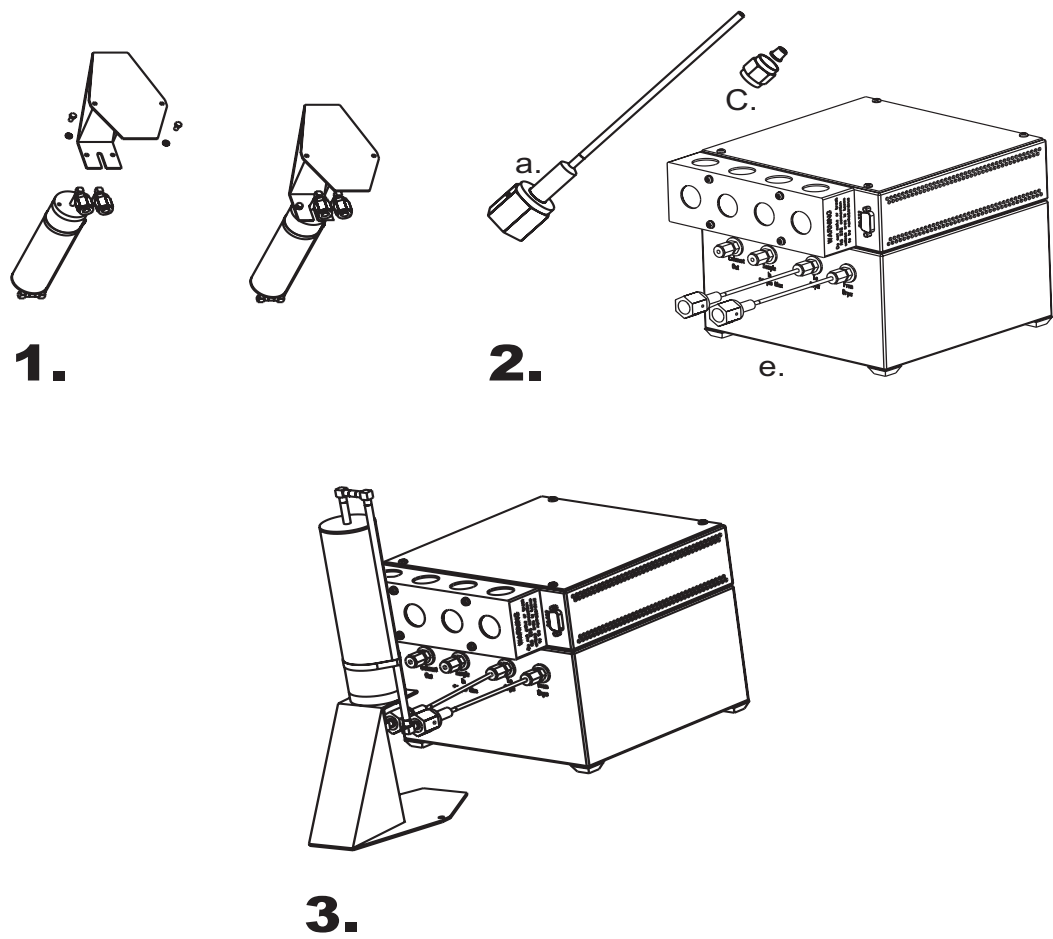

Figure 2-4.
2. Connect the Dryer input to the "To Dryer" 1/8-inch compression fitting on the analyzer. Connect the Dryer output to the "From Dryer" 1/8-inch compression fitting. Refer to "Dryer Installation Instructions" and Figure 2-4.
1. To alleviate stress on the tube connections attach the Dryer to the Dryer Bracket using two (2) 10-32 screws, and flat and lock washers (Figure 2-4).
- e. Using two (2) 7/16-inch wrenches (one to hold the bulkhead fitting), swage the compression fittings into the bulkhead fittings on the analyzer. For proper installation, the fitting should be 1/4-turn past finger-tight.